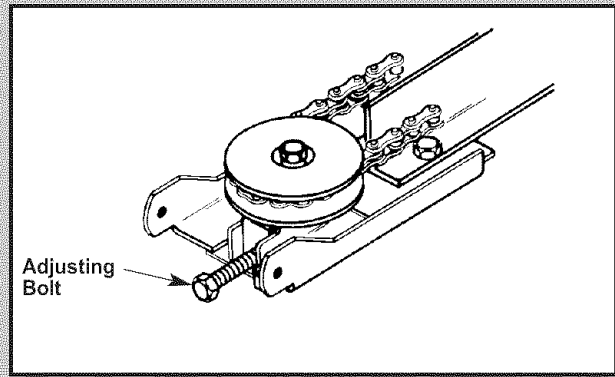

Fig. 1-4
- Insert the two (2) 5/16" x 1/2" hex head screws [112], then two (2) No. 10-24 x 1/2" hex head screws [69].
**6. Use adjusting bolt to set chain tension (Fig. 1-4)**